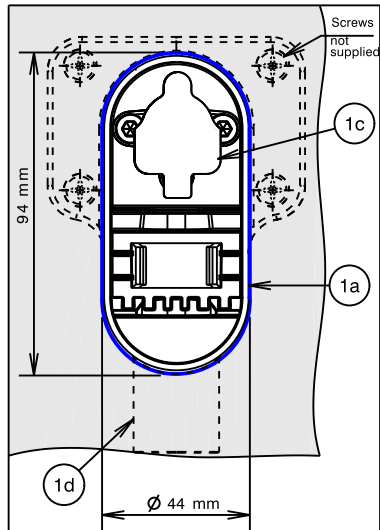

Fig.1 - Roughing kit installation
- 1) Fit the housing (1a) onto a noggin in the wall and secure using 4 screws (not supplied) through the holes, Fig. 1. Before tightening, horizontal alignment must be checked by using the flat face on the top of the housing (1a).
- * The wall/tile cut-out must be Ø44 x 94mm to ensure enough sealing surface for cover plate (10), Fig. 1.